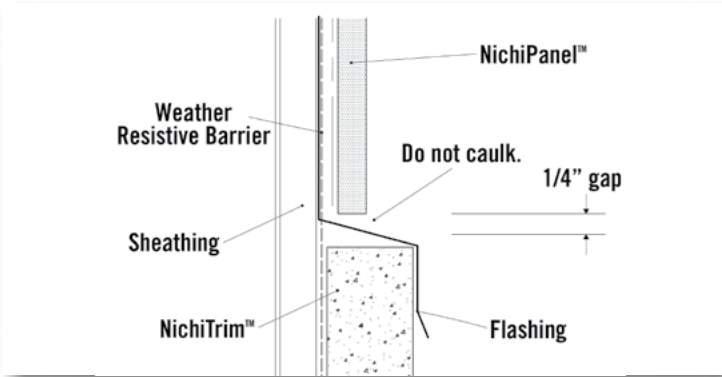

Fig. 12.4
- If a horizontal band board or trim attachment is used at horizontal joints, flashing must be in place that extends over the panel and trim attachment. (Fig. 12.4)